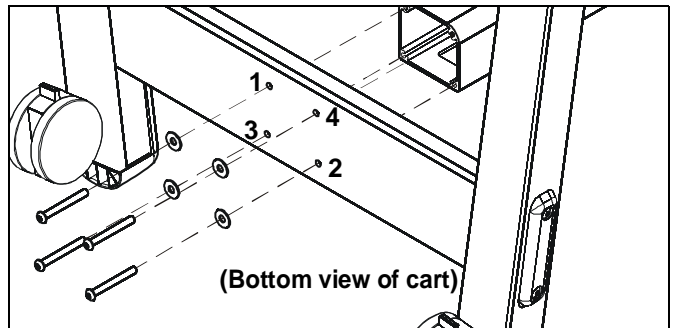

Figure 11
1. Attach center post to leg assembly using four button head cap screws and four 5/16" flat washers removed in Step 1 of **Removing Column from Cart or Stand** section. (See Figure 11)
NOTE: Insert and turn screws in order shown (1, 2, 3, 4). (See Figure 11)